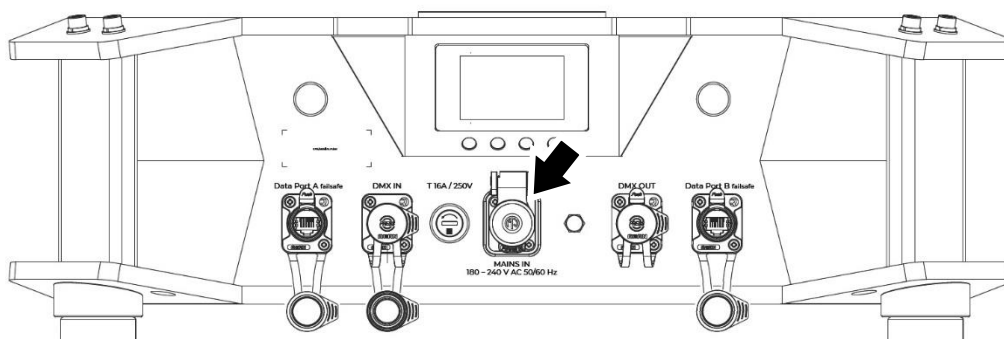

Figure 6. Mains power IN socket
2. Remove the rubber cap from the TRUE1 TOP MAINS IN socket (arrowed in Figure 6). Line up the keys in the connector correctly with the keyways in the socket.